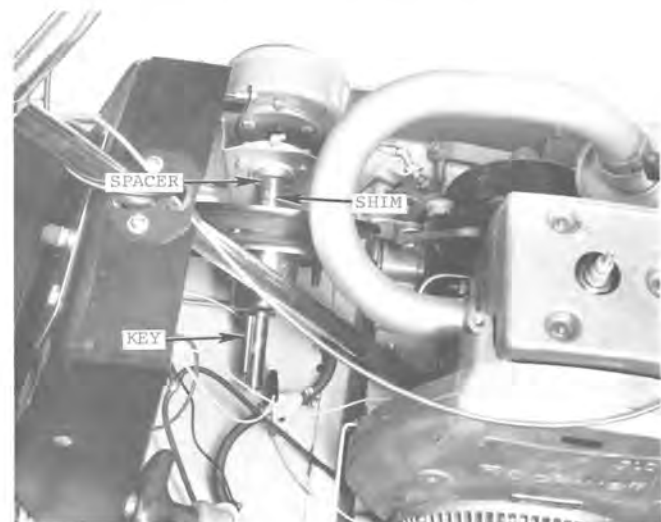

Fig. 68 — Removing Shaft and Driven Pulley From Ski Whiz
6. Continue to carefully tap shaft from bearings, removing locking collars at the same time. Slide shaft and pulley from Ski Whiz. See Fig. 68. Pay careful attention to arrangement of parts so that reinstallation can be made with ease. Slide shaft from pulley.